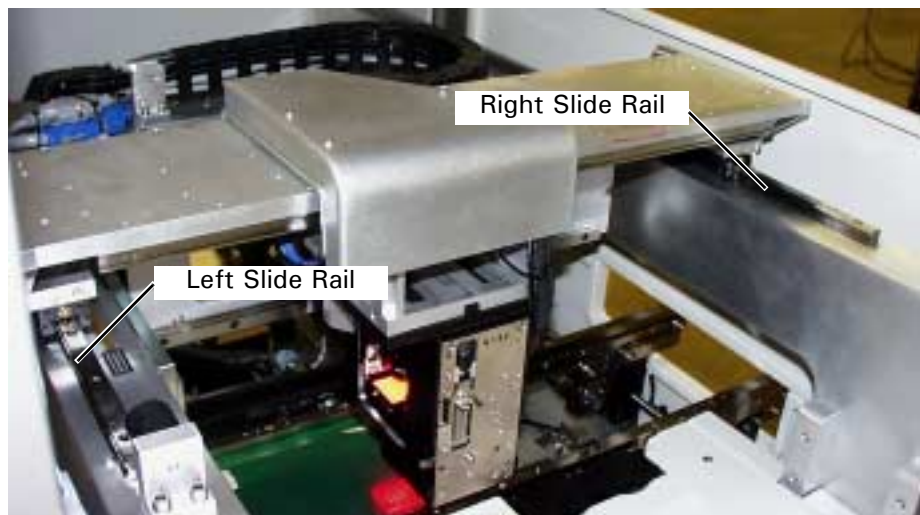

Figure 3-4
1. Position the Gantry all the way to back of the machine. This will provide access to the front half of the slide rails. See Figure 3-4.
2. Wipe the front half of the slide rails with a clean cloth to remove dirt and residue. See Figure 3-4.